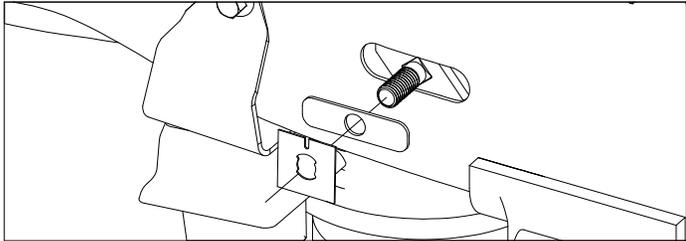

Figure A11: View looking into driver side wheel well.
- 14. Install rear carriage bolt.** Pass the carriage bolt and locking strap into the frame through the forward mounting slot and pull the fish wire until the threaded end of the carriage bolt is through the locking strap and has passed out of the rear mounting slot. Install a rectangular frame spacer onto the carriage bolt and place it into the slot in the frame. Install a retainer onto the carriage bolt until it is snug, see Figure A11.